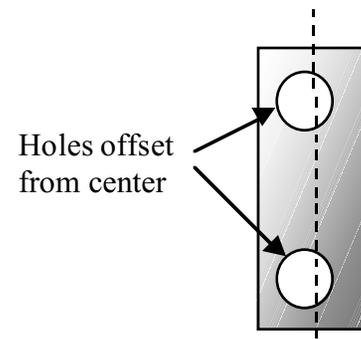

Figure 6-2
□ Locate a 2-D fastener and hold it vertically as shown in Figure 6-2. Looking at a side with two holes, note that the holes are offset from the center. When you install the fasteners in the following step, be sure to position them so that the holes in the fastener are shifted in the same direction as the holes in the PC board outlines on the bottom of the board.